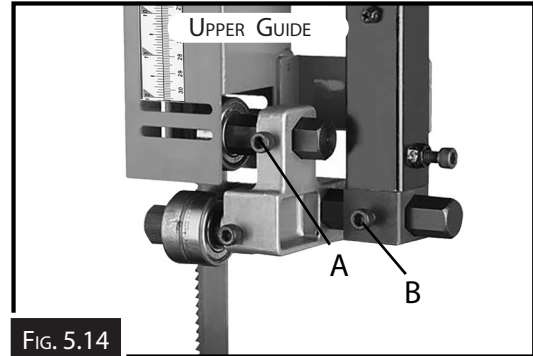

FIG. 5.14
3. Familiarize yourself with the support bearing controls shown in Fig. 5.14
4. Loosen the socket head cap screw on the support bearing adjustment shaft. (A in Fig.5.14)